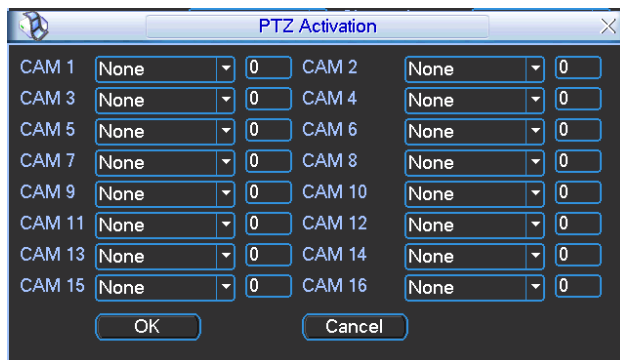

Figure 4-26
- PTZ activation: Here you can set PTZ movement when an alarm occurs. Such as go to preset, tour & pattern when there is an alarm. Click “select” button, you can see an interface is shown as in \_Figure 4-26.